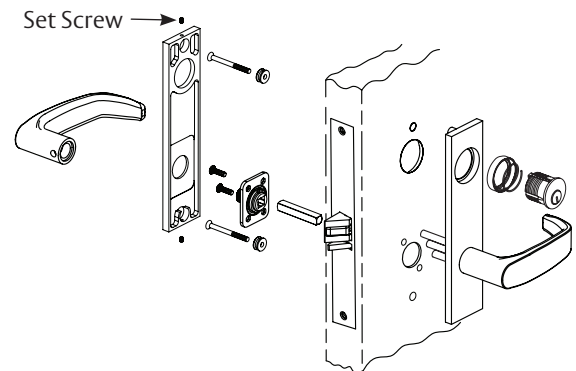

Figure 10
1. Outside escutcheon must be through-bolted with items K and L (Figure 10) prior to attaching inside escutcheon.
Cylinder collar(s) required for functions with two (2) cylinders or cylinders longer than #41 (1-1/8"). (Figure 10)